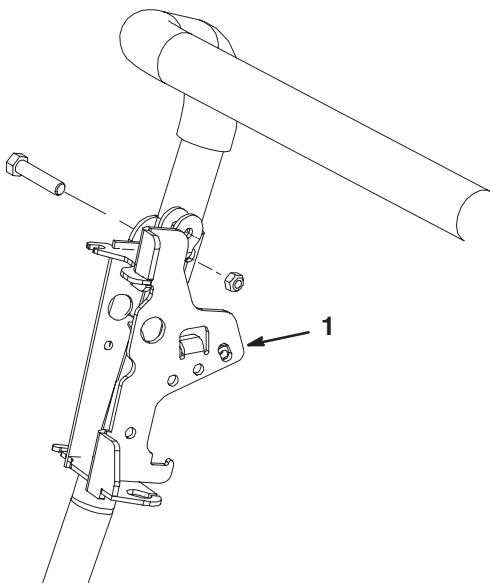

Figure 8
15. Remove the (2) screws and nuts securing the control bracket and the right end of the operator presence bail, is so equipped, to the handle (Fig. 8).
16. Secure the new throttle/control bracket and the operator presence bail, if removed, to the handle with (2) M8 x 1-1/4 screws and M8 nuts (Fig. 8).